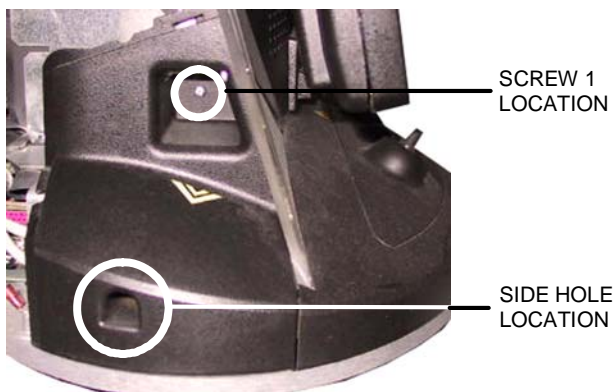
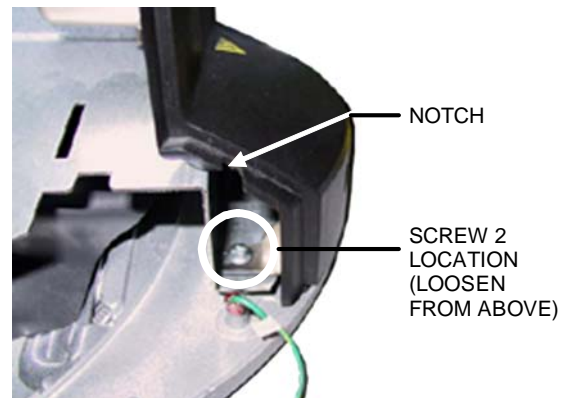

FIGURE 13 - SIDE VIEW OF RIGHT WING HIP
FIGURE 14 - REAR VIEW OF RIGHT WING HIP
15. Remove the right wing hip by removing the two screws securing it. See Figure 13 for screw 1 location. Screw 2 can be loosened by inserting a screwdriver into the inside notch of the wing hip, directly over the screw (see Figure 14).
NOTE: Even with the two screws removed, this wing hip may be difficult to get out. It may be helpful to insert a screwdriver into the side hole on the wing hip (see Figure 13) and gently pry the wing hip up and out of place.
30. Resecure the right wing hip with the two screws you removed earlier. See Figures 13 and 14 for screw positions. Be sure that the bottom lip of the wing hip is seated behind the lip of the metal base of the Aurora. When this wing hip locks into place, you will hear a snap.